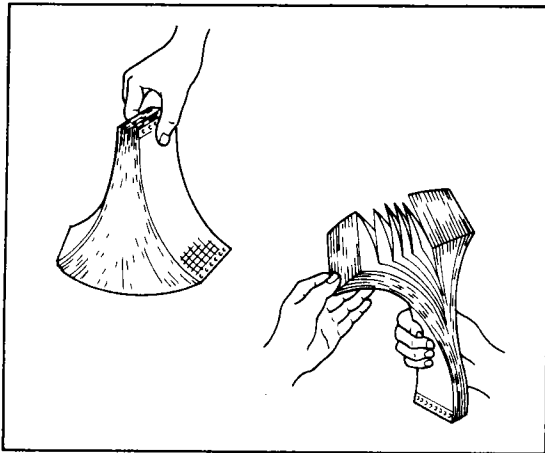

Figure 5-1.
- (1) Fan chart paper thoroughly at both ends before loading. (See Figure 5-1.)